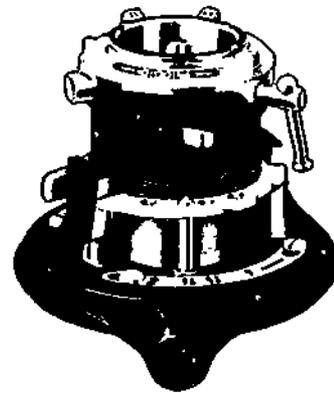

Figure 7-27. Pipe Threader Not Requiring Force
- d) Threaders such as shown in Figure 7-27 do not require force, but are drawn onto the pipe as it is rotated. The locking device at the rear must be tightened to the pipe